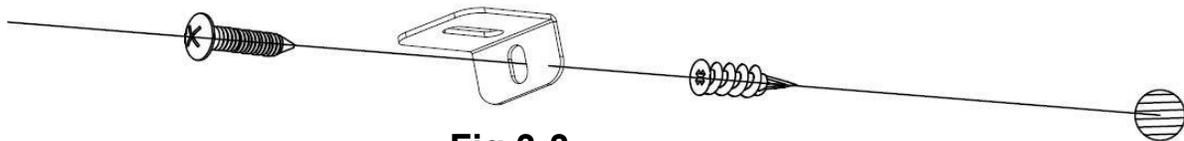

Fig 3-3
**C.** Install the plastic anchor (C) into the drywall, then install the screw (B) (supplied) into the hole of the L-bracket into the wall anchor to secure the fireplace from coming off the hooks. (Fig 3-3)